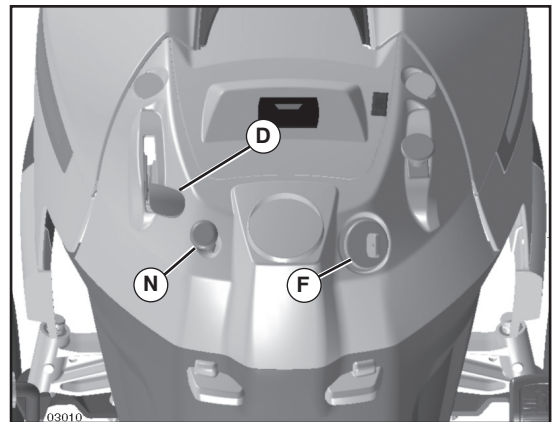

FIG. 6
### TO USE THROTTLE CONTROL (D) (See Fig. 6)
### TO USE CHOKE CONTROL (N) (See Fig. 6)